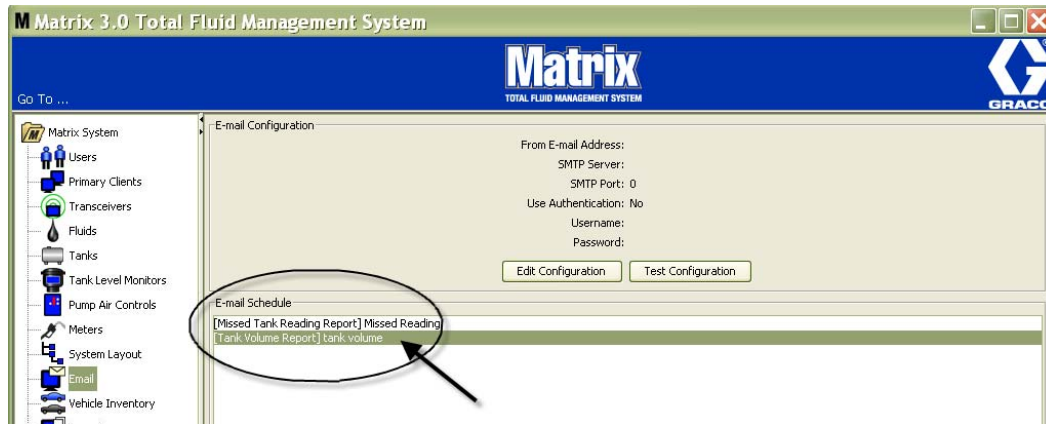

FIG. 157
3. The e-mail events you created are shown in the E-Mail Schedule portion on the main E-Mail Configuration screen as shown in FIG. 157.